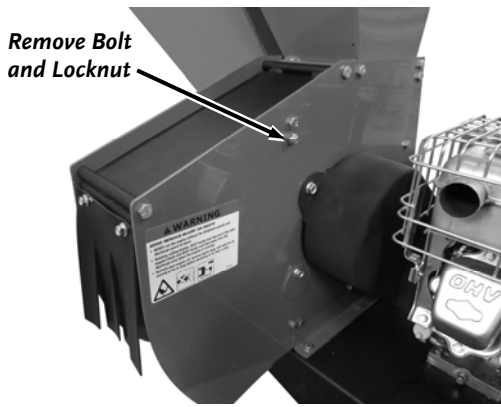

Figure 30
1. Remove the top Screen Bolt and Locknut using two 1/2" Wrenches (**Figure 30**).